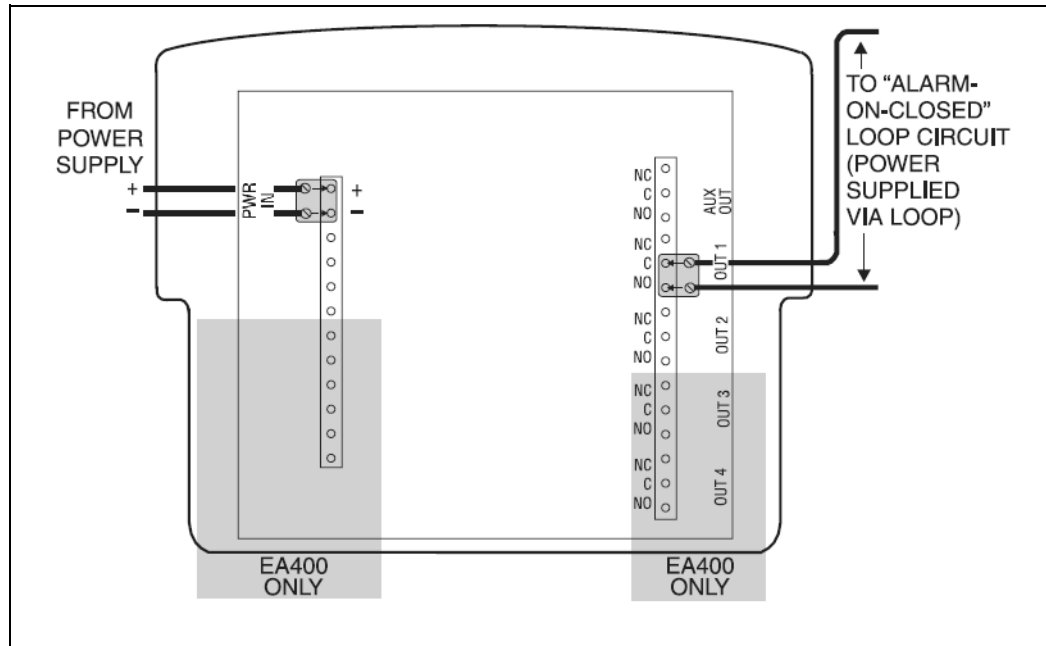
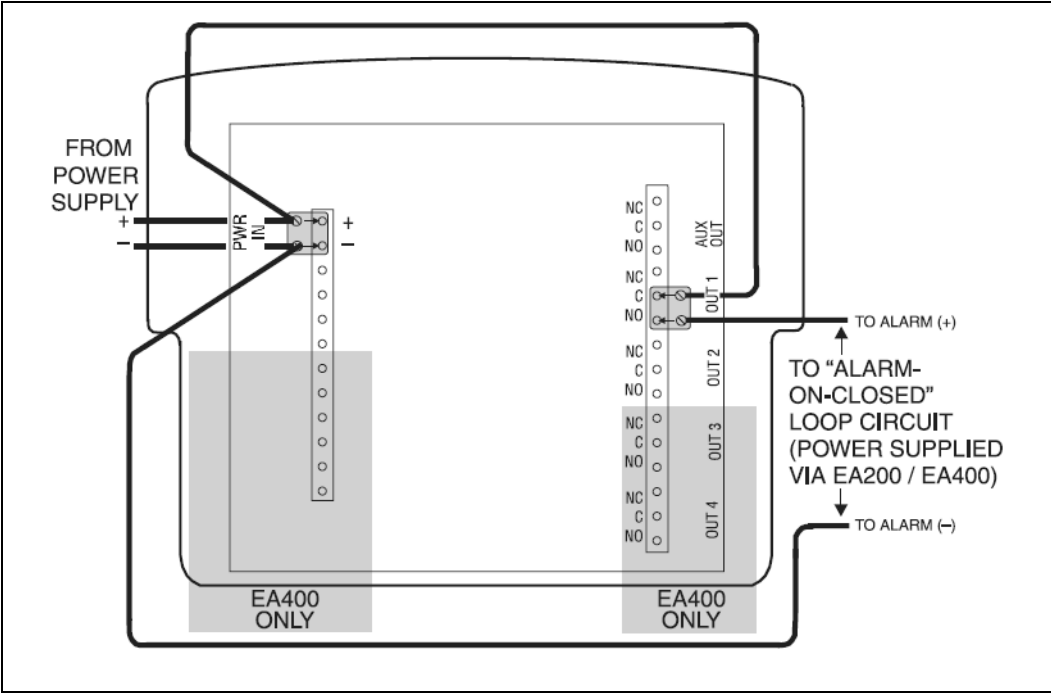

Figure 8. Typical Alarm Loop Wiring Configuration (External Power)
Figure 9. Typical Alarm Loop Wiring Configuration (Self-Powered)
3. Connect the alarm loop leads to the Terminal Block Adapter. Attach the adapter to terminals C and either NC or NO on the appropriate circuit board header connector. See Figures 8 and 9.
Figures 8 and 9 show typical alarm loop wiring configurations. Figure 8 shows an alarm loop where alarm power is derived from the alarm loop. Figure 9 shows an alarm loop where alarm power is derived from the power supply feeding the EA200 / EA400.